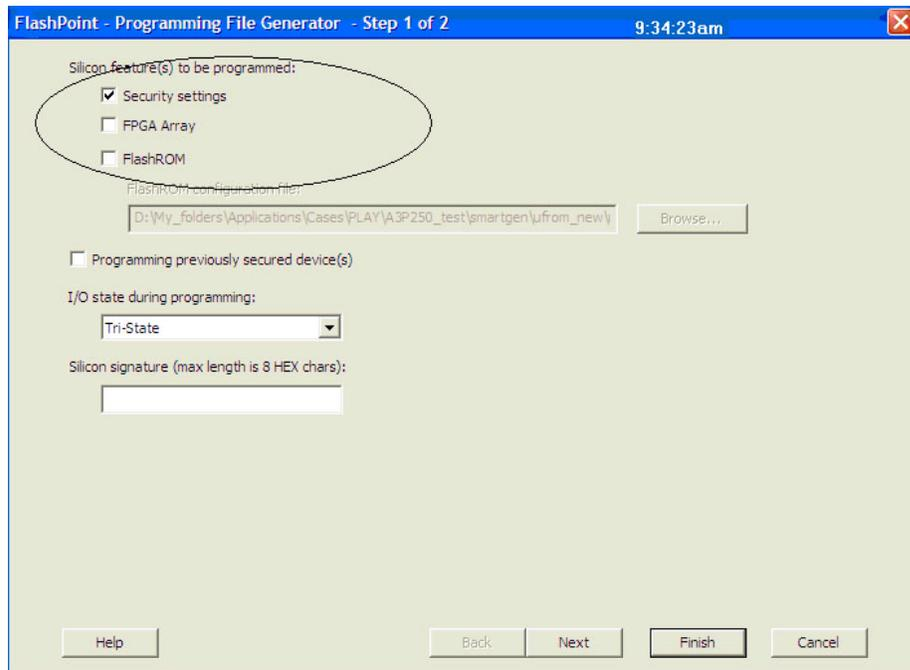
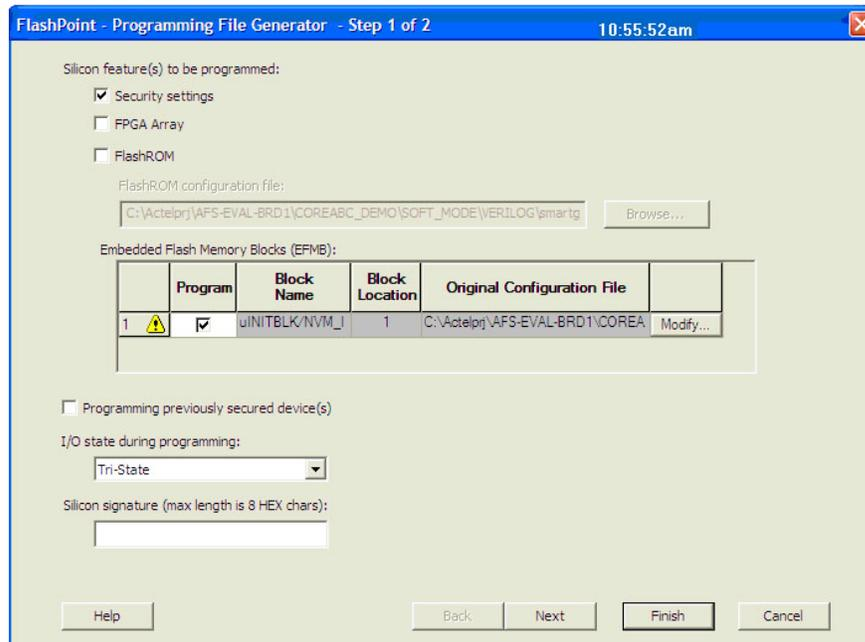

Figure 17-14 • Programming IGLOO and ProASIC3 Security Settings Only
Figure 17-15 • Programming Fusion Security Settings Only
1. Select only the **Security settings** option, as indicated in Figure 17-14 and Figure 17-15 on page 382. Click **Next**.